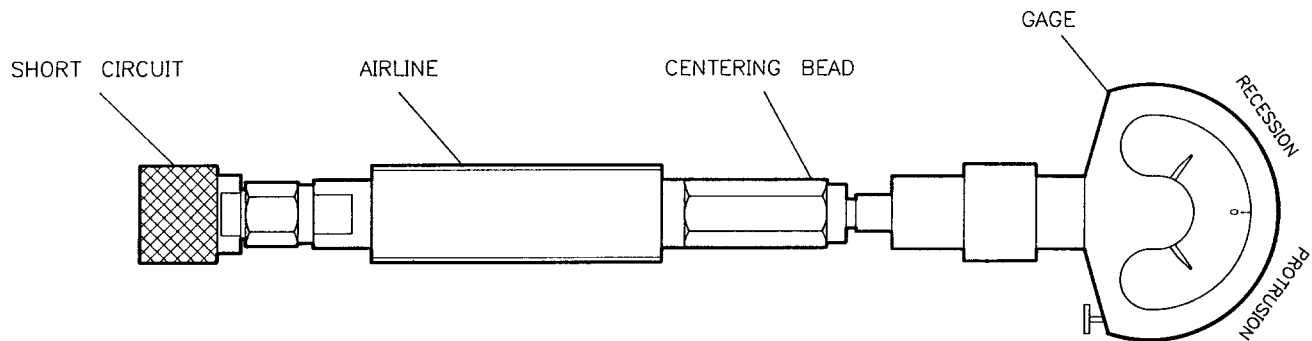

Figure 4-11. Gaging the Airline
8. Mate the gage to the airline (see Figure 4-11).